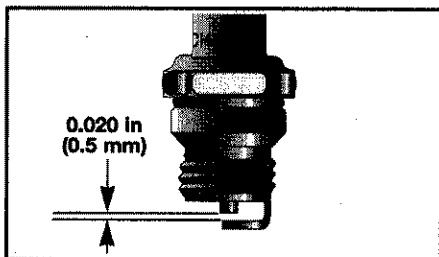

Fig. 27
3. Set the air gap at **0.020 in (0.5 mm)** using a wire feeler gauge (Fig. 27). Install a correctly gapped spark plug into the cylinder head. Torque to **110-120 in•lb (12.3-13.5 N•m)**.